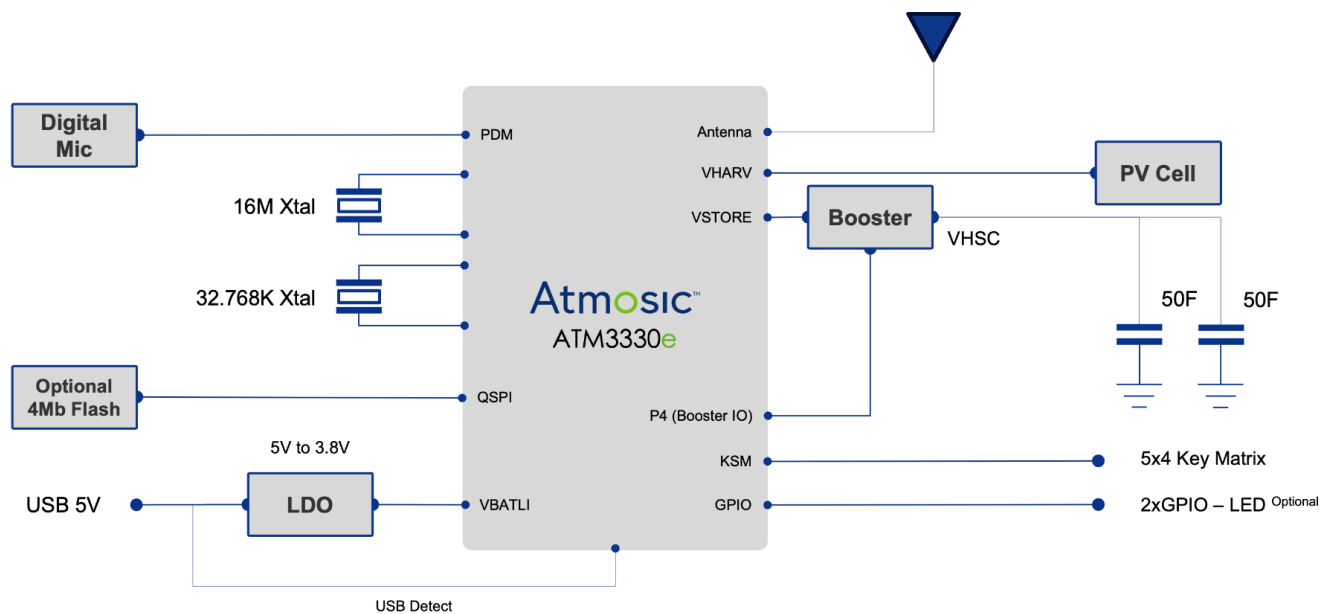

Figure 3 - ATM3330e PV Remote Control Block Diagram
- Figure 3 - ATM3330e PV Remote Control Block Diagram
The main configuration of the ATM3330e with hybrid supercapacitors is shown in Figure 3. More information about the 50 F hybrid supercapacitors can be found in the References section.